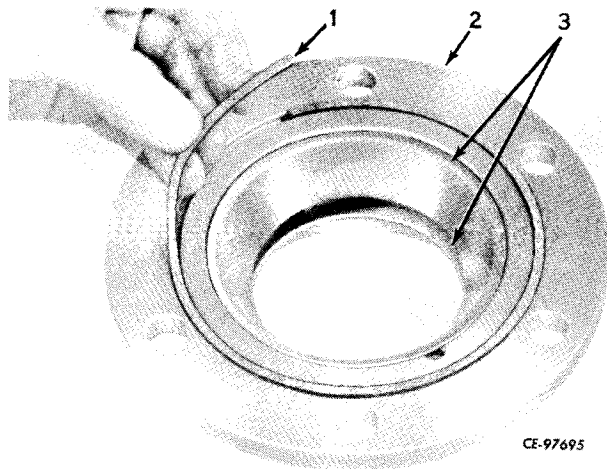

Figure 6-38
Press cups (3, Fig. 6-38) firmly against shoulders in cage assembly (2). Install a new cork seal (1) in groove of pinion cage.